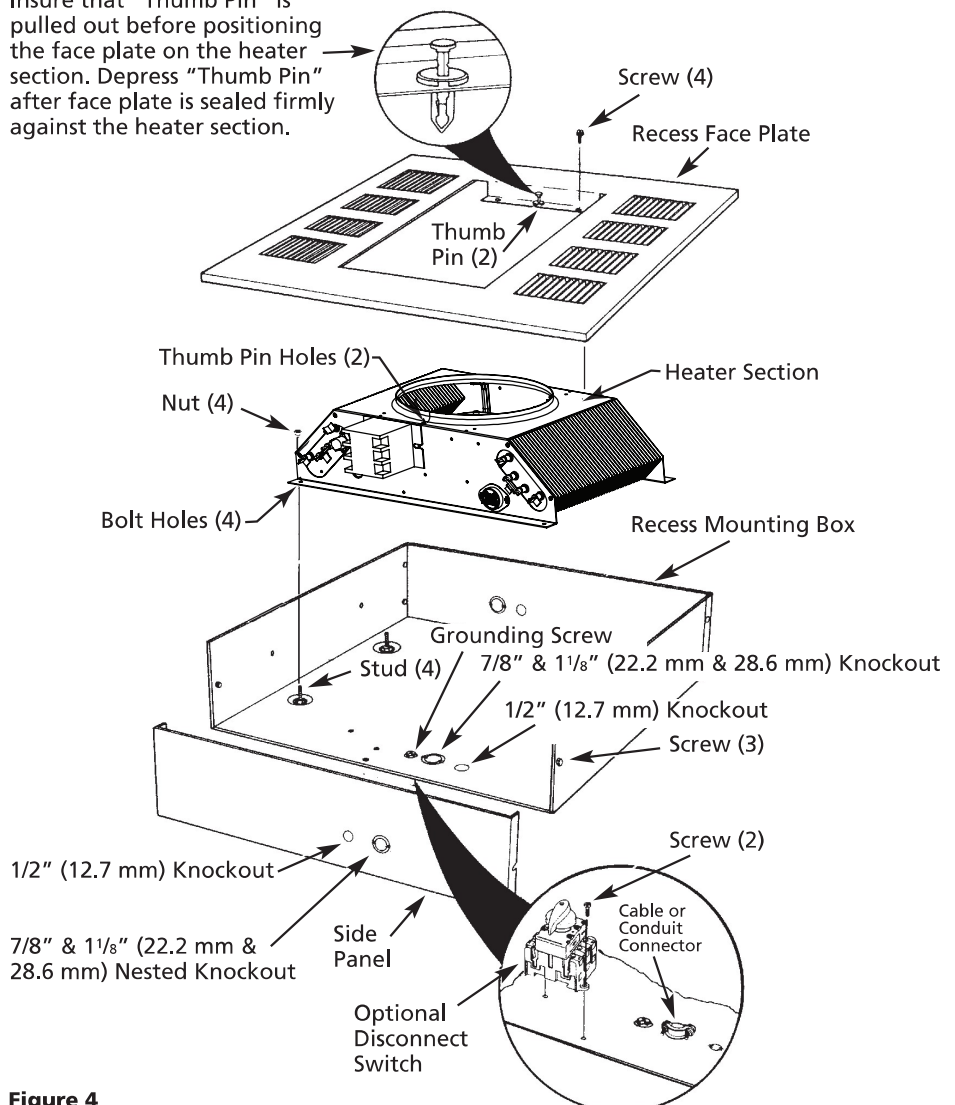

Figure 4
### INSTALLATION OF RECESS MOUNTED HEATERS IN T-BAR CEILING 2YU36, 2YU37, 2YU39, 2YU41 AND 2YU43 (See Figures 4 and 5, pages 4 and 6)
1. Remove Recess Mounted Heater assembly from carton. Heater assembly includes (1) recess mounting box, (1) heater, (1) recess face plate and (1) set of discharge grilles.
2. Remove recess mounting box from assembly. Remove four (4) nuts from studs so heater can be removed from recess mounting box. **Do not discard** nuts since these will be used in Step 9 to mount heater section back on to the recess mounting box.
3. Remove three screws and the side of the recess mounting box to allow for easier wiring (Figure 4).
4. Remove one of the knockouts and install a cable or conduit connector (Figure 4).
5. Install the optional disconnect switch 2YU45 (if required as shown in Figure 4). Refer to Accessory Installation Manual for proper wiring.
8. Position the heater section over the studs in the recess mounting box (Figure 4).
9. Push the heater section onto the studs and securely tighten the four (4) nuts (removed from Step 3) on the studs to secure the heater section to the recess mounting box (Figure 4).
**NOTE:** Insure that the "thumb pin" in each end of the discharge grille opening is pulled outward to allow the body of the thumb pins to fit into the holes in the heater section (Figure 4).
12. Install and securely tighten four screws (supplied) to secure the recess face plate to the heater section (Figure 4).